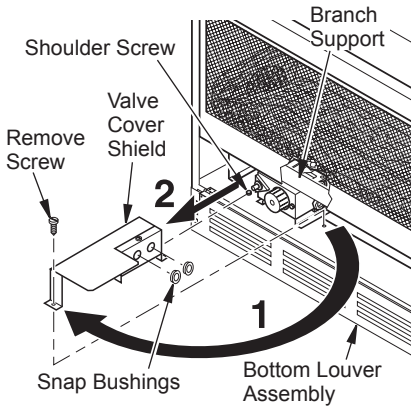

Figure 15 - Removing Valve Cover Shield
1. Open bottom louver assembly by swinging the assembly down (see Figure 15, page 13).
2. Using short Phillips screwdriver, remove the screw under the center of the branch support. Rotate valve cover shield clockwise and slide out. **IMPORTANT:** Do not remove shoulder screw on the left side of valve cover shield. Slide the valve cover shield off of the shoulder screw (see Figure 15, page 13).